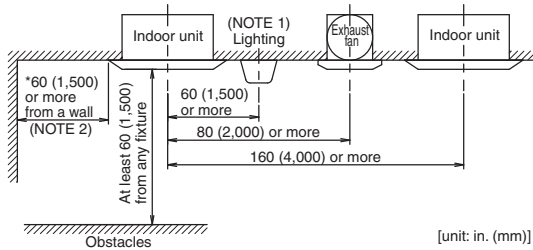

Fig. 2
- Any vents, light fixtures, or other appliances which may disturb the airflow might soil the ceiling if too close, so follow Fig. 2 when installing.